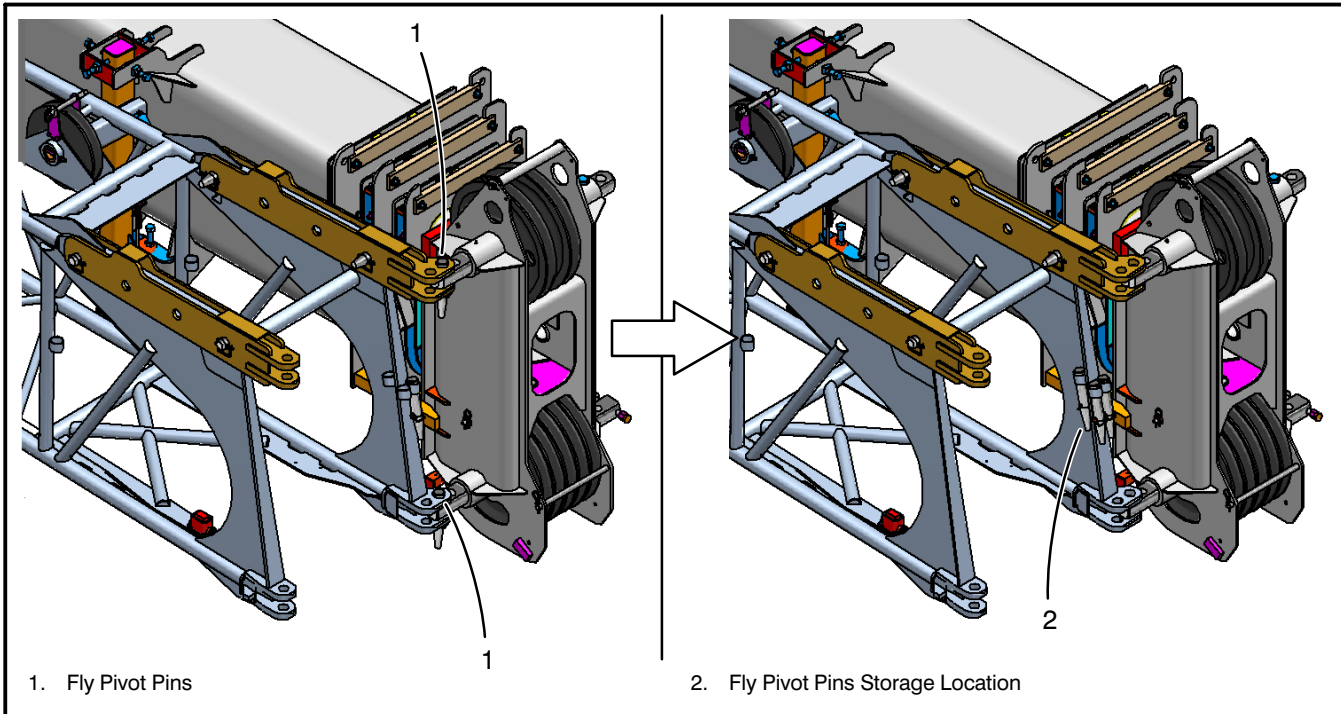

Figure 4–129
18. If the 25 ft (7.62m) fly section is stored on the boom, remove the connecting pins from their storage location. Refer to Figure 4–127.
21. Remove two fly connecting pivot pins from the right side of the boom. Refer to Figure 4–129. Store pins and keepers in their storage location on the rear right side of the fly section.